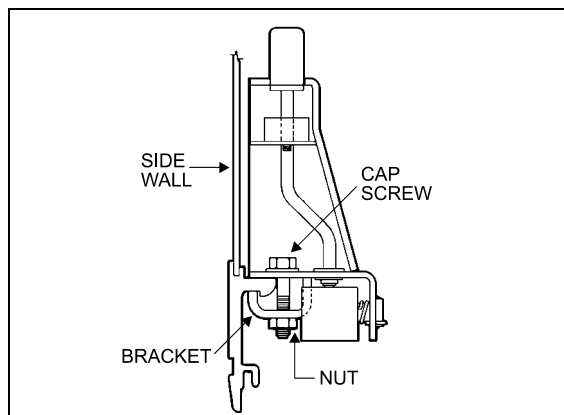

FIGURE 24: ARMREST
5. Remove 2 cap screws, nuts, and washers holding seat frame to side wall and retain the 2 holding brackets. See figure 24.